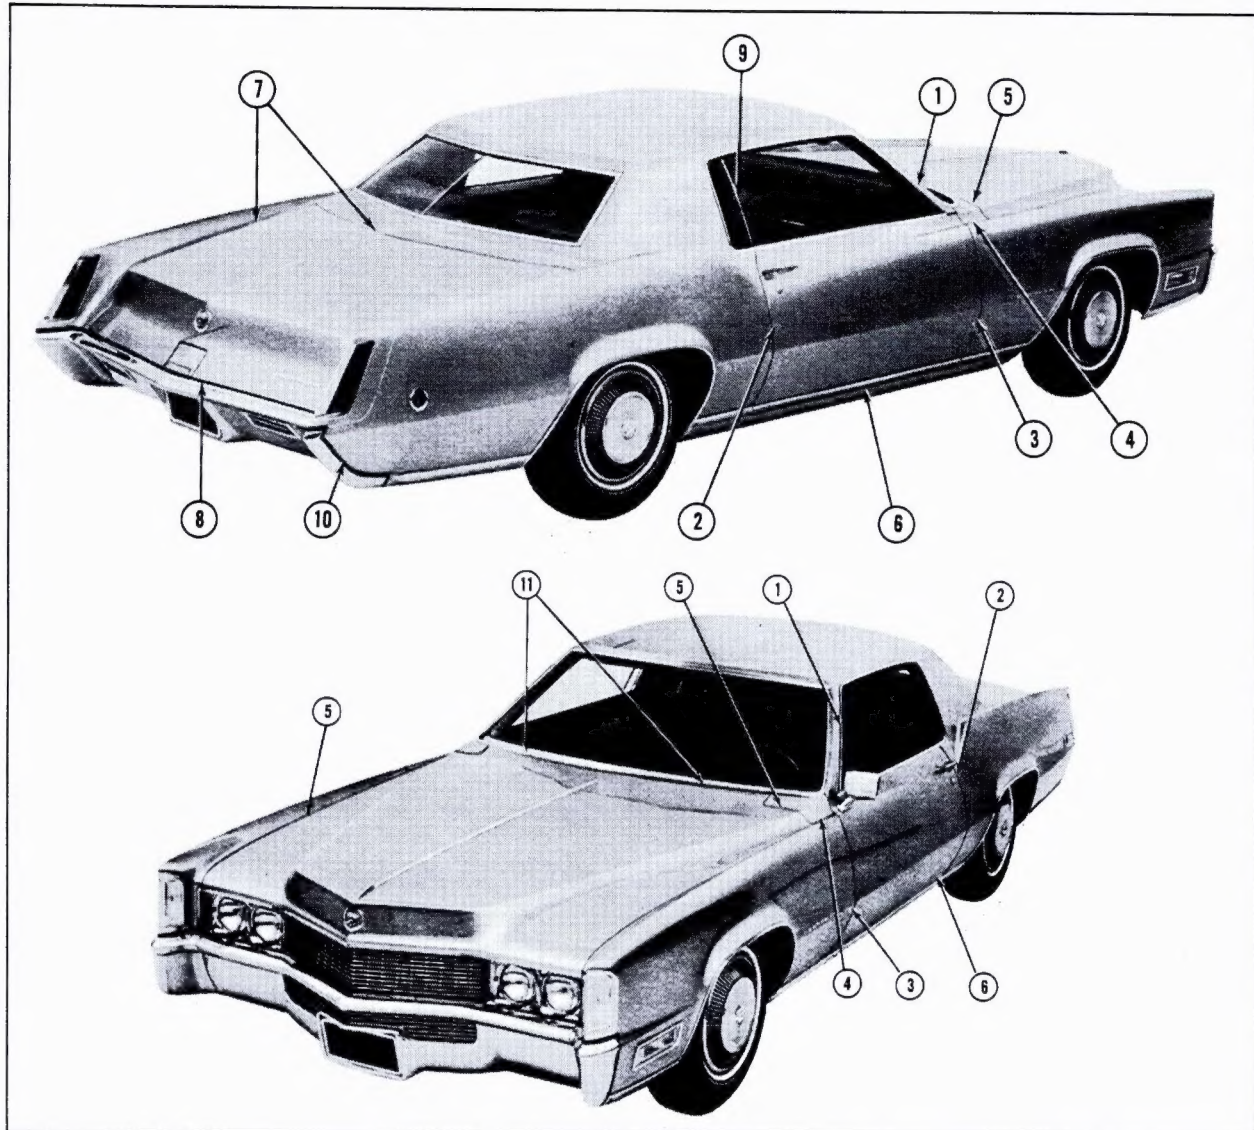

Fig. 11-10 Sheet Metal Tolerances - 693
1. Loosen hood attaching screws, three at each hood hinge, Fig. 11-8. Elongated holes in hinge provide fore, aft, and side adjustment of hood. Position hood so that tolerances shown in Fig. 11-10 are provided.
NOTE: In the following steps, install proper number of shims necessary to obtain tolerances shown referring to Fig. 11-10.
15. Adjusting Sheet Metal Tolerances Eldorado 693 Body Clearances, Fig. 11-10
The adjustment procedures for clearances #1 through #11 (except #3, #4, #5 and #11), in Fig. 11-10 will be found in the 1969 Fisher Body Service Manual.
These clearances should be adjusted to the specifications shown in Fig. 11-10.